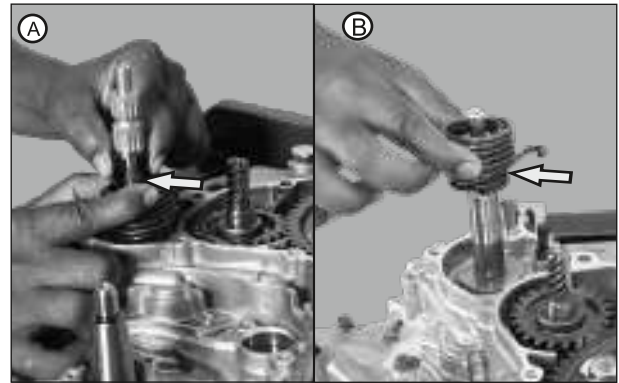

Fig. 3.77
- Take out the spacer from spring hand starter (A). (Fig. 3.77)
- Dis-locate spring hand start from shaft hand start in locator hole on shaft hand start (B). (Fig. 3.77)